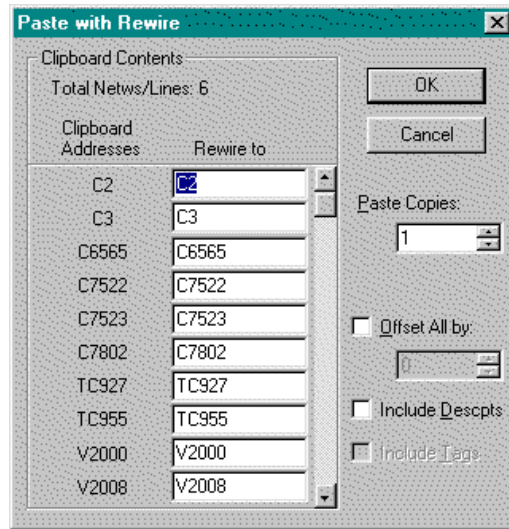

Figure 3.22
- Selecting Paste with Rewire from the Edit menu. The Paste With Rewire dialog box (Figure 3.22) appears.